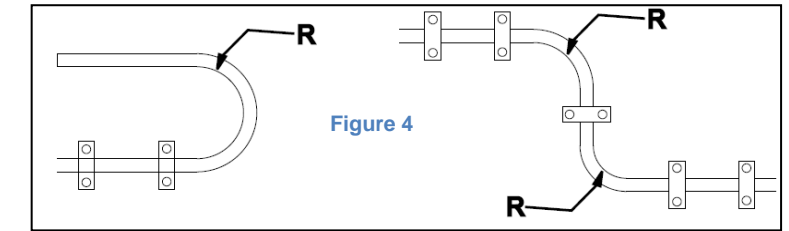

Figure 4
- The bending radius should not be less than 60mm as shown in the Figure 4.